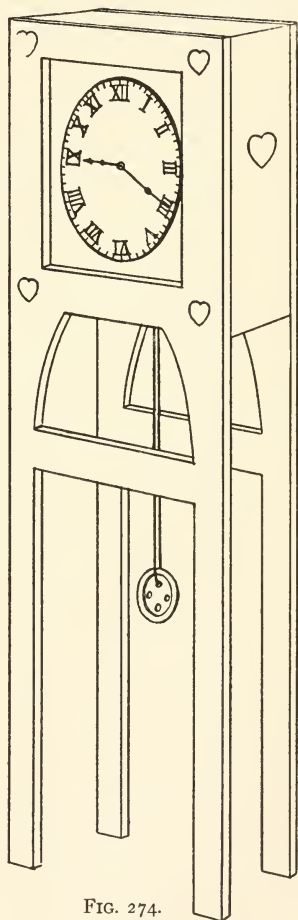

FIG. 274.
**The Grandfather's Clock** (Fig. 274) makes an effective piece of furniture for the hall or living-room, and is easily made. Figure 264 shows the pattern for the front of this clock. The back is made the same, with the omission of the square opening cut in the front frame for the clock-face. Cut a block of wood two by two by three-quarters inches to fit between the frames at the top. After nailing the pieces together, procure a face from a toy watch, and fasten it in the opening made for it in the front frame. A button suspended by means of a piece of thread from a tack placed in the bottom of the block forms the pendulum.